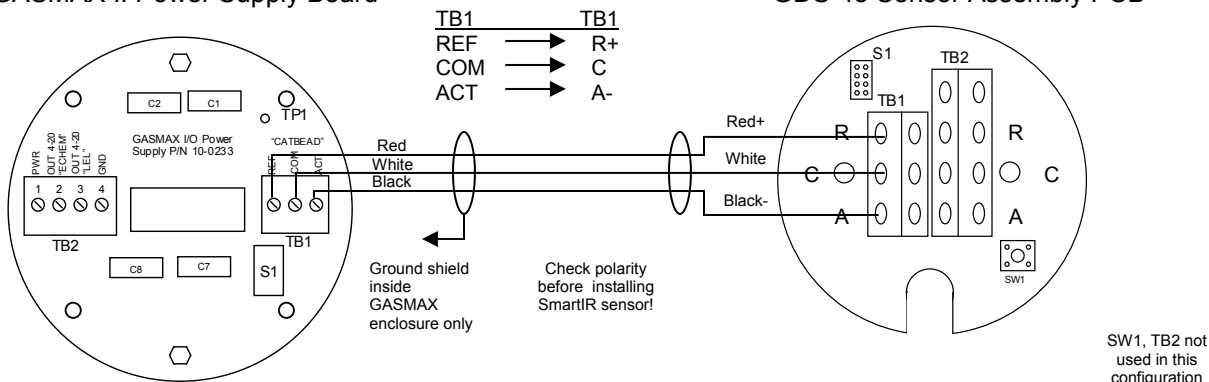

Fig 2. GASMAX II to GDS-48 Wiring Diagram for SmartIR
- 2) Connect the GASMAX to the GDS-48 as shown in Fig. 2.